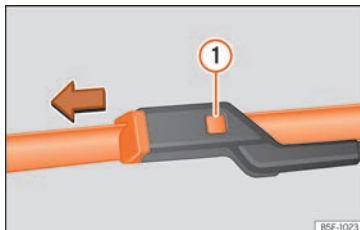

Fig. 48 Changing the windscreen wiper blades
- Press and hold release button »» Fig. 48 ① and pull gently on the wiper blade in the direction of the arrow.